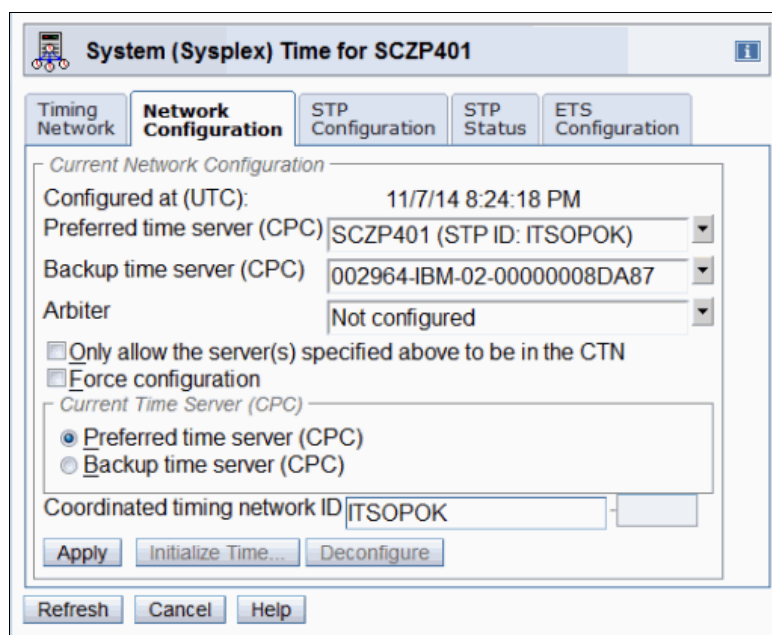

Figure 9-55 System (Sysplex) Time: Assign a new STP role
1. Click the **Network Configuration** tab (Figure 9-55).